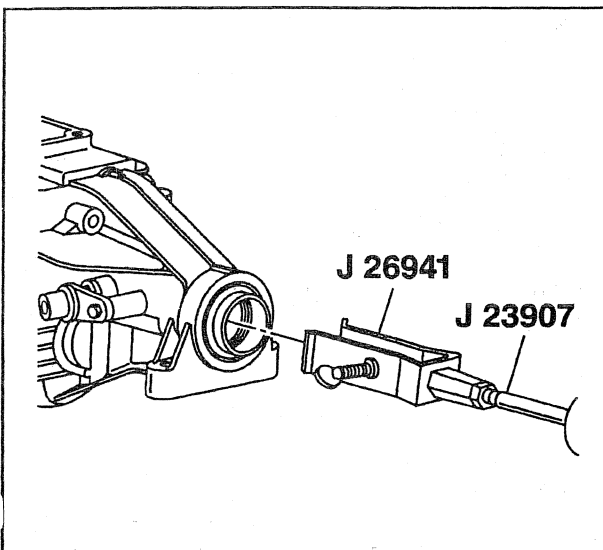

Figure 6—Extension Housing Seal Removal (2WD Models)
Remove or Disconnect (Figure 6)
3. Seal, using J 23907 and J 26941 (figure 6).